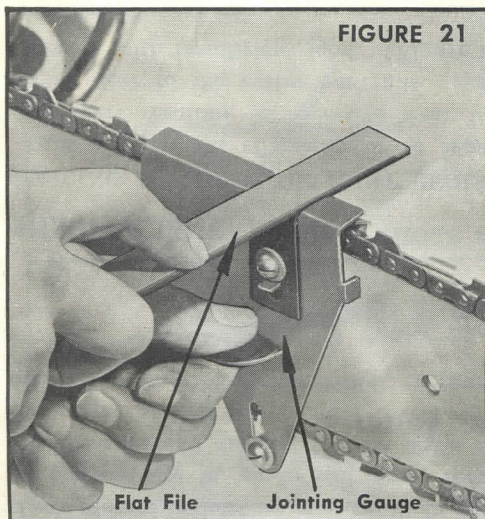

FIGURE 21
1. Using Jointing Gauge #470163 as illustrated is simple and accurate. First preset the adjustable plate, using the feeler gauge supplied, to the recommended joint. Next place jointing tool on top of the chain with the depth gauge protruding through the slot in the jointing plate and resting on the two cutters near the centre of the bar. Using a flat file, file the depth gauge to the level of the jointing tool plate. **WARNING:** Always work near the centre of the bar and move the chain each time, NOT the tool. This is necessary due to the contour of all cutter bars. To operate your jointing tool at various positions could give an uneven joint and a rough cutting chain. (Figure 21).